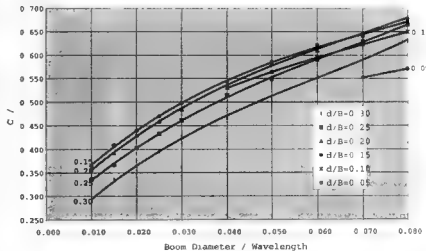
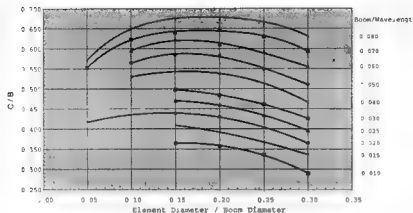

Fig 6. Boom Correction for Elements of Length  $0.42 \lambda$  against  $B/\lambda$  values as marked for each curve
Fig 7 Boom Correction for Elements of Length 0.42 Wavelength. Boom Diameter/Wavelength is marked for each curve.
The results may be plotted in the form  $C/B$  against  $B/\lambda$ , as in Figure 6, with separate curves for different element diameters. Alternatively  $C/B$  may be plotted against  $d/B$ , as in Figure 7, with separate curves for different boom diameters. Other possibilities
Figure 6 may be compared directly with Figure 1, based on the G3SEK formula. The curve shapes in Figure 6 are generally similar to that in Figure 1, but it is apparent that the intercepts on the vertical axis of Figure 6 are well above zero for all values of  $d/B$ . The curves in Figure 6 also intersect making it hard to use in practice. The reason for these intersecting curves is clearer in Figure 7. In general as the element diameter increases the boom correction factor  $C/B$  decreases as expected from the discussion earlier. In the case of thick booms however, the boom correction factor also falls for very thin elements, for which the reactance component is large. This is in fact a consequence of the use of a standard element of fixed length rather than fixed phase. The use of a standard element of fixed length is much easier to deal with in practice, but leads to curves that intersect when boom diameter is used as the horizontal coordinate.
For the practical prediction of boom corrections, Figure 7 is significantly easier to use than Figure 6, because the various curves are well separated and generally less inclined.
negative inductance contributed by the boom, and hence to slightly different constants in the formula. However when the procedure is reversed and the same program is used to find the corrections in other situations, such differences between programs should largely be eliminated. In effect the computer modelling is used to interpolate between boom correction factors which were found directly by experiment. Thus the author believes that the graphical results as presented in Figure 7 are substantially independent of the computer modelling, and represent a close approximation to the truth.
4. Refer to Figure 7, draw a vertical line corresponding to the value of  $d/B$ , and read off the value of  $C/B$  from the appropriate curve - interpolate between the curves as necessary.